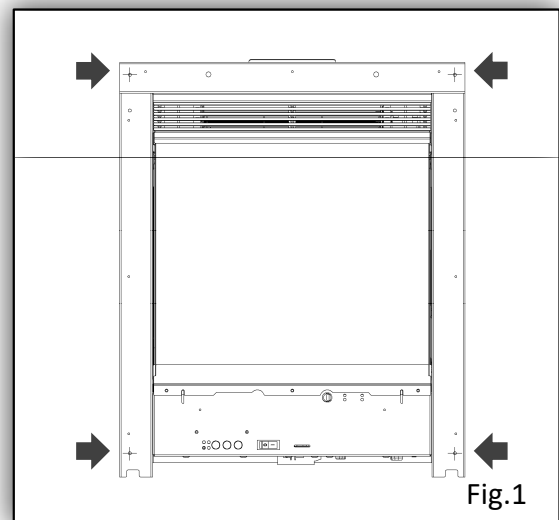

Fig.1
2. Dependent upon your surround material there are different options to secure the fire & trim in place. For **timber** back panel surrounds the fire will be secured to the back panel by screwing in place using the fires fixing points (**see Fig.1**). For **marble** construction back panels an extra back panel clamp bracket has been provided to allow installation of the fire into marble surround.
4. Mark the fixing points in pencil on the back panel (**see Fig.1**) & remove the fire to prevent any damage. Using the marked fixing points drill 2.5mm pilots holes 6mm deep.